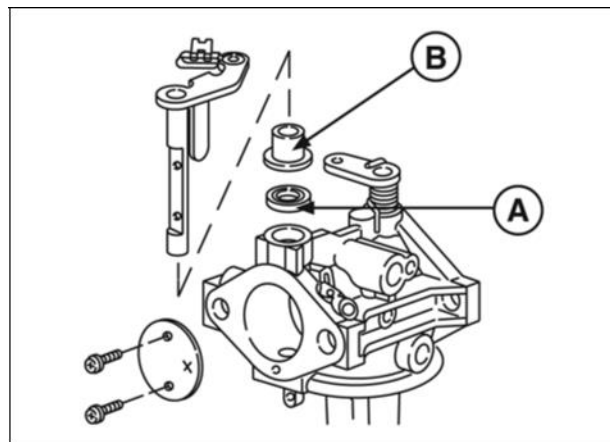

Figure 15
1. Install seal (A, Figure 15) with grooved side out.
2. Assemble collar (B) to throttle shaft and insert in body.
3. Install throttle plate and screws (C).